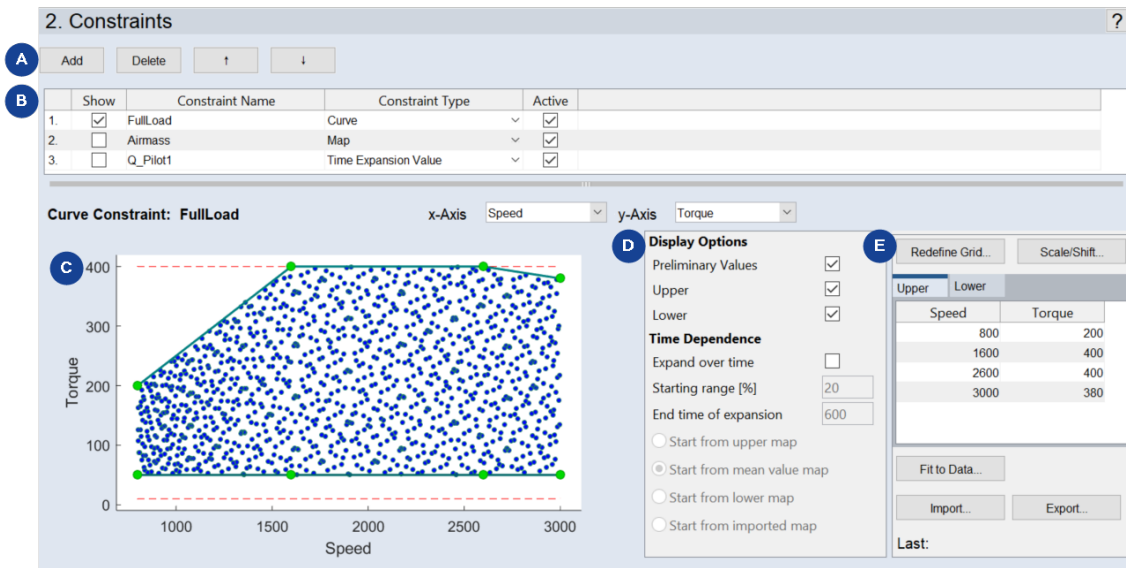

Fig. 6-3: ASCMO-DYNAMIC ExpeDes Step 2: Constraints (Type **Curve**)
1. Click **Add** to create a new constraint (see **A Fig. 6-3: above**).
If a completely specified constraint is selected in the list, the measurement points of the current experiment plan are displayed in a 2D (Curve, see Fig. 6-3: on the previous page) or 3D plot (Map).
The display of the preliminary values is controlled via the **Preliminary Values** checkbox (region **D** in Fig. 6-3: on the previous page). Only a part is shown to ensure a smooth operation. In addition, the thicker points of the grid with which the constraint of areas is controlled are also displayed.
2. In the constraint plot (region **C** in Fig. 6-3: on the previous page), click a point of the constraining line/area and hold the mouse button pressed.
The numeric values of the constraining points are shown in the tables on the right (**Upper** and **Lower** tabs; region **E** in Fig. 6-3: on page 72) and can be processed in these (both in terms of quantity and value); see section "Table for Displaying and Editing the Grid Nodes" below.
The grid nodes can be edited in the tables to the right of the plot (region **E** in Fig. 6-3: on page 72). One tab each is available for the upper and lower constraint.
- i. In the table area (region **E** in Fig. 6-3: on page 72), click **Export**.